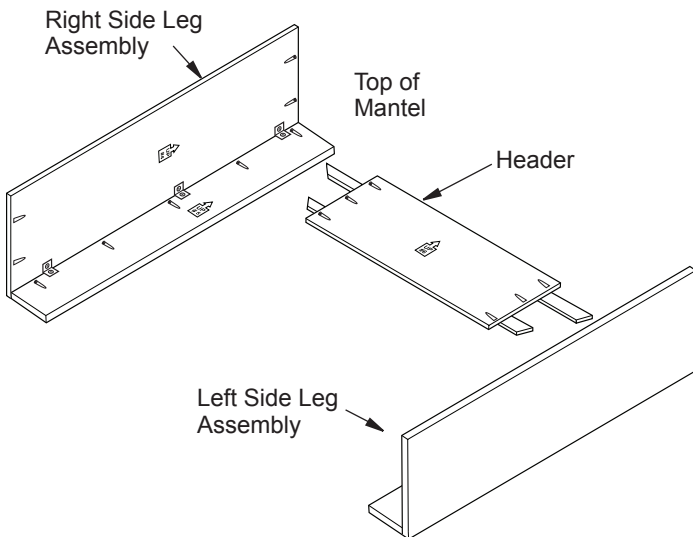
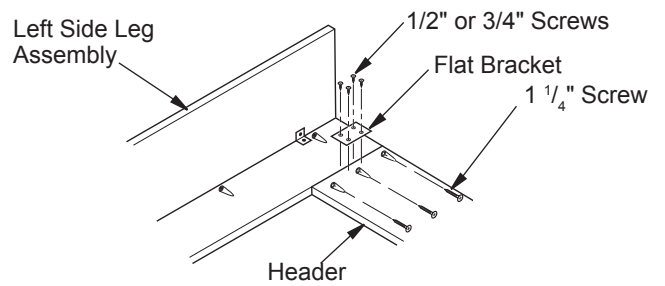

Figure 3 - Installing Header
Figure 4 - Attaching Header to Leg Assembly
- Position header between leg assemblies with direction arrow pointing up (see Figure 3). Attach header to leg assemblies through predrilled holes with 1 1/4" screws in each leg assembly as shown in Figure 4. You may prefer to lay mantel face down on a soft surface instead of upright. Using pocket holes and 1 1/4" screws, attach header to leg assemblies. Be sure you have proper alignment between the header and leg assemblies. Attach flat brackets with 1/2" or 3/4" screws using 1 flat bracket and 4 screws per side (see Figure 4).